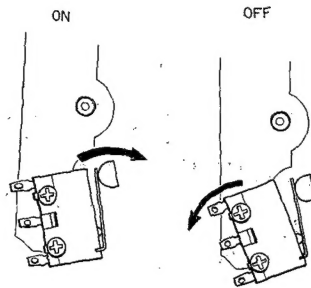

Fig. 21
- 1) Rotate the micro switch to the right and when the switch is in the ON position, rotate the microswitch back to the left. Temporarily fix it at the position where it goes off. (See figure 21)